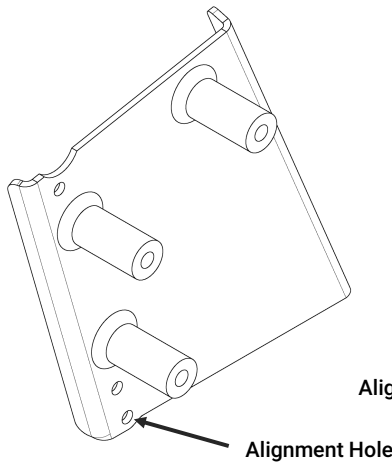
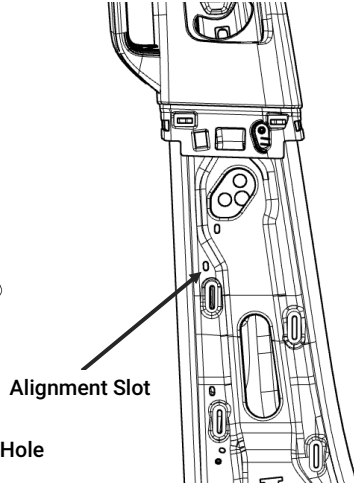

Figure 1a
Figure 1b
- B. (1) of the [3X162] self drilling screws is used to set the height of the bracket. Insert a screw through the lowest hole on the bracket (Fig 1a) and into the slot that the wire clip was removed from in section III step D (Fig 1b). The screw should be in the very bottom of the slot.